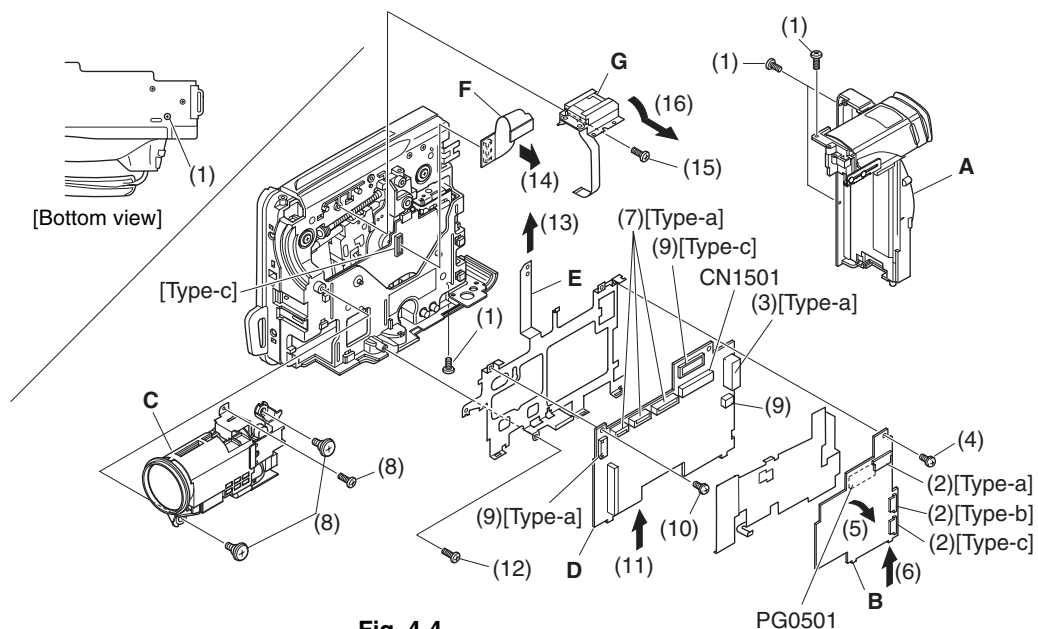

Fig. 4-4
4.4 Rear block, REF circuit board, Camera block, MAN circuit board, Circuit board frame, DRF circuit board, and Hot shoe (Fig. 4-4)